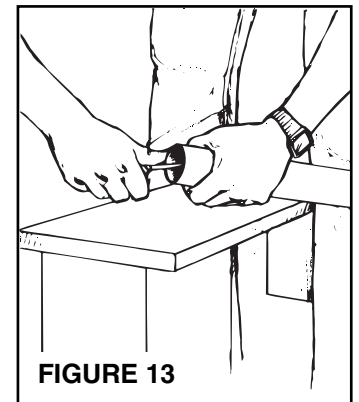

FIGURE 13
9. Refer to Figure 13. Remove burrs from both inside and outside of tubing.